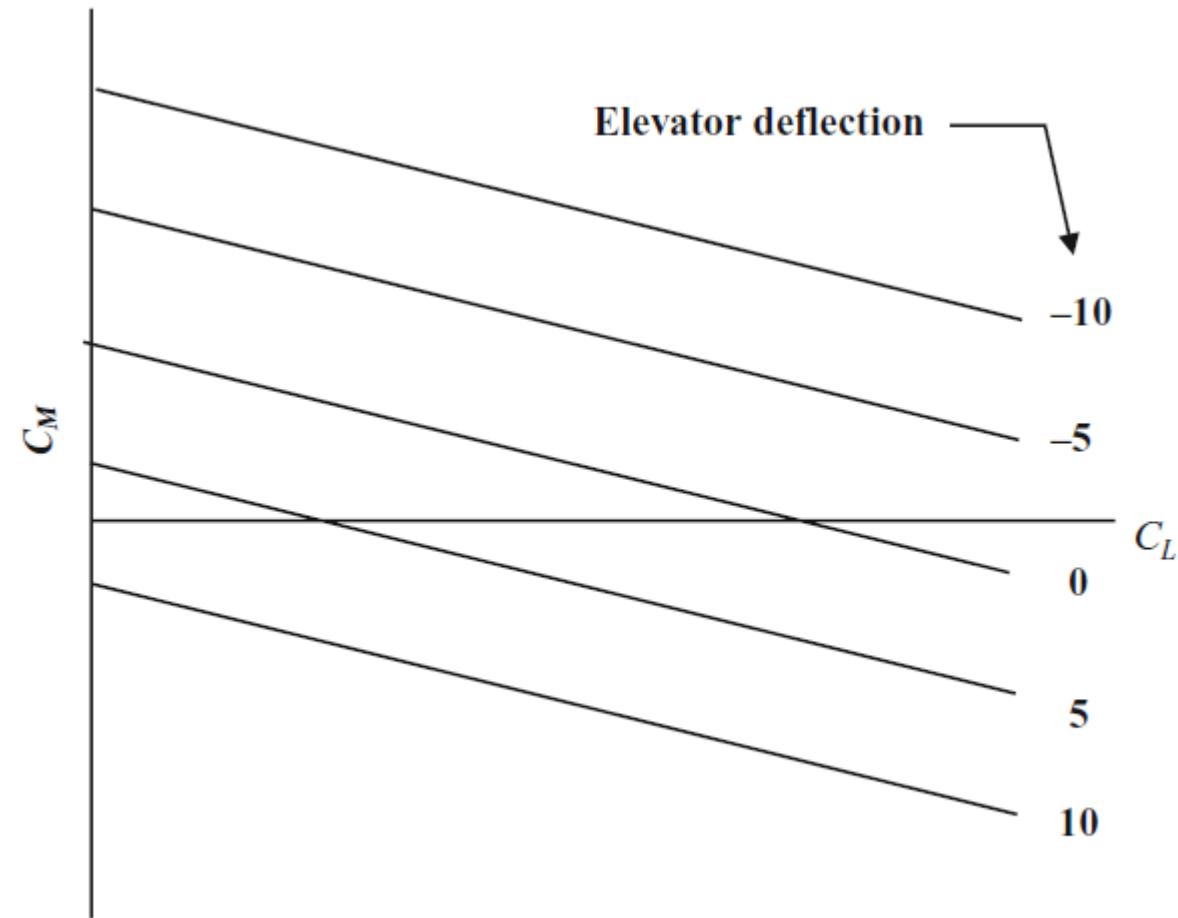

Figure 5.6 Pitch control moment versus elevator deflection
- A pitching moment is generated by changing the lift coefficient of the tail surface by deflecting the elevators as shown in Figure 5.6.